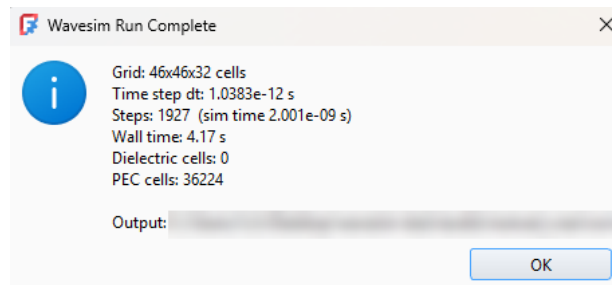

Figure 4.8: The run summary.
3. **Run.** Press **Run Simulation** . FreeCAD is unresponsive while the solver runs (Chapter 11). The summary window (Figure 4.8) reports the grid, the time step, the step count and the wall time.